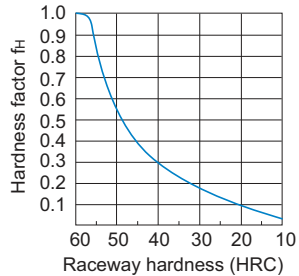

Fig.1 Hardness Factor ( $f_H$ )
- $f_H$  : Hardness factor (see Fig.1 **11-6**)